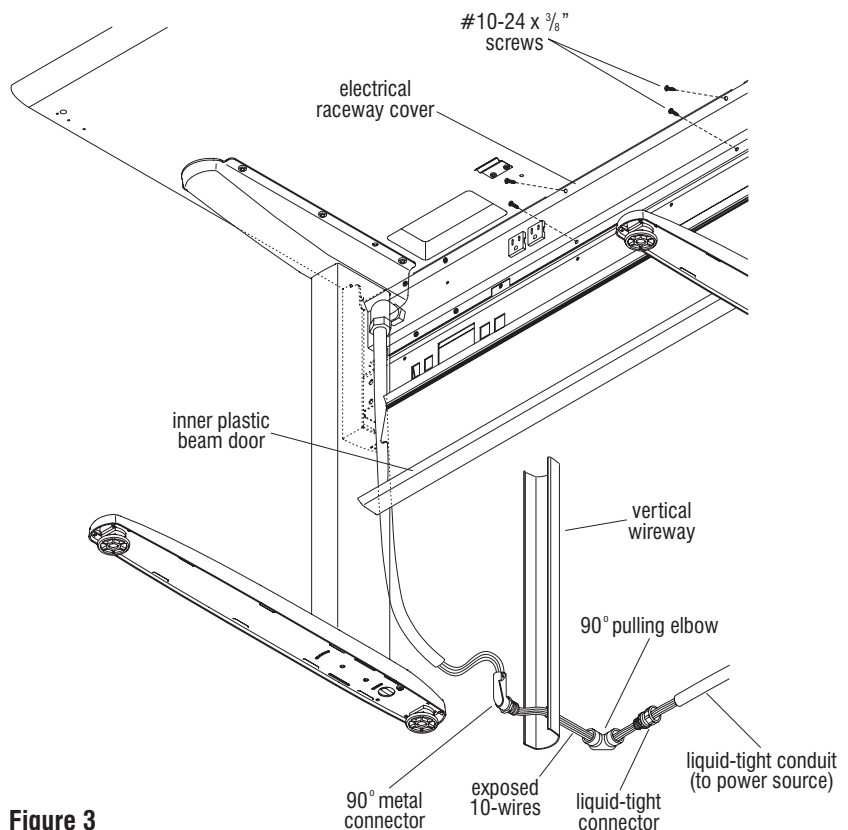

Figure 3
2. Install the electrical raceway cover to the inside of beam as illustrated with #10-24 x $\frac{3}{8}$ " screws (Figure 3).
4. Feed the flexible conduit and source wires down the D-shaped hole in the data trough. Route the wires through the 90° metal connector, vertical power wireway, 90° pulling elbow and liquid-tight connector. Fasten components together. Cut liquid-tight conduit to desired length. Feed wires through the liquid-tight conduit and attach the conduit to the connector on the front of the wireway (Figure 3).
the vertical wireway against the foot until it snaps into position (Figure 3).